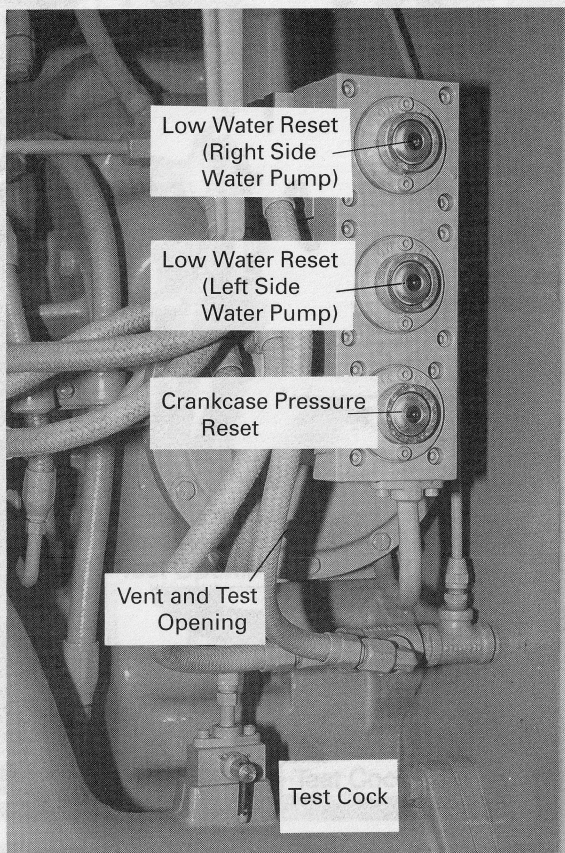

Fig. 2-26 Dual Differential Low Water/Crankcase Oil Pressure Detector
12. Dual Differential Low Water/ Crankcase Oil Pressure Detector (See Fig. 2-26)
The locomotive is also equipped with devices, Fig. 2-26, which will detect low cooling water pressure at the left and right side water pumps as well as excessive crankcase pressure. When activated, the devices release oil pressure from the line leading to the low oil pressure mechanism in the governor, causing engine shutdown.